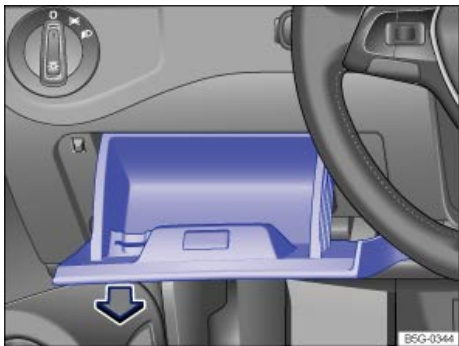

Fig. 184 On the driver side in the instrument panel: Fuse box cover.
- Pull the lower part of the cover toward the steering wheel (in the direction of the arrow ⇒ fig. 184) and remove the cover from the bottom. This action may require moderate force.